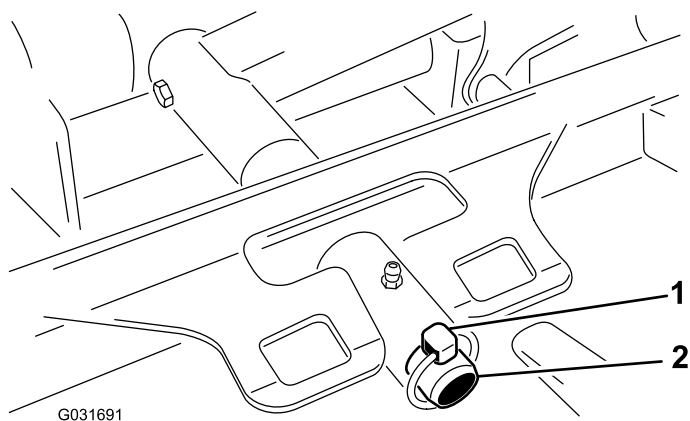

Figure 96
3. Remove the lynch pin securing the deck-carrier frame to the lift-arm pivot pin (Figure 96).
3. Slide the deck-carrier frame onto the lift-arm pivot pin and secure it with the lynch pin (Figure 96).